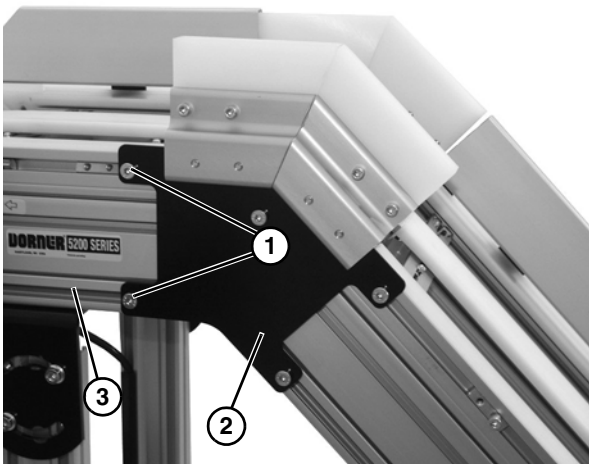

Figure 7
1. Attach upper knuckle to frame by loosening two socket head cap screws (Figure 7, item 1) on each side of upper knuckle assembly (Figure 7, item 2), and sliding T-Nuts into straight frame section (Figure 7, item 3).